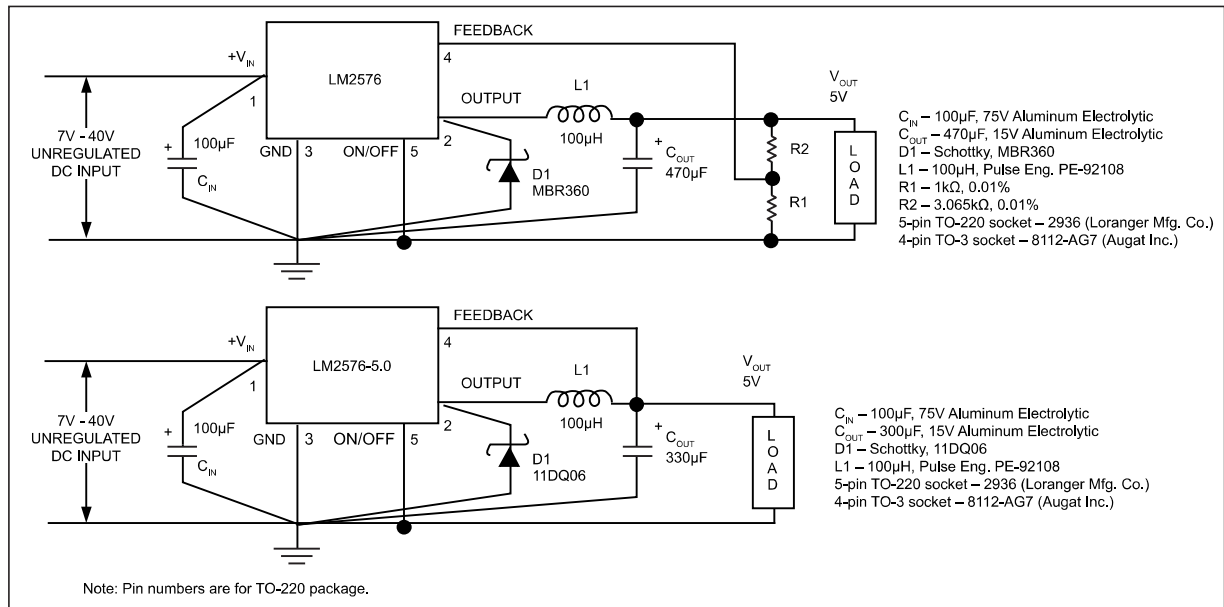

FIGURE 4-1: Test Circuit.
- External components such as the catch diode, inductor, input and output capacitors can affect switching regulator system performance. When the LM2576/LM1576 is used as shown in Figure 4-1 test circuit, system performance will be shown in system parameters section of Electrical Characteristics.
System Parameters, 12V Regulators (Note 2) Test Circuit Figure 4-1
On/Off Control, Fixed and Adjustable Regulators , Test Circuit Figure 4-1
2: External components such as the catch diode, inductor, input and output capacitors can affect switching regulator system performance. When the LM2576/LM1576 is used as shown in Figure 4-1 test circuit, system performance will be shown in system parameters section of Electrical Characteristics.